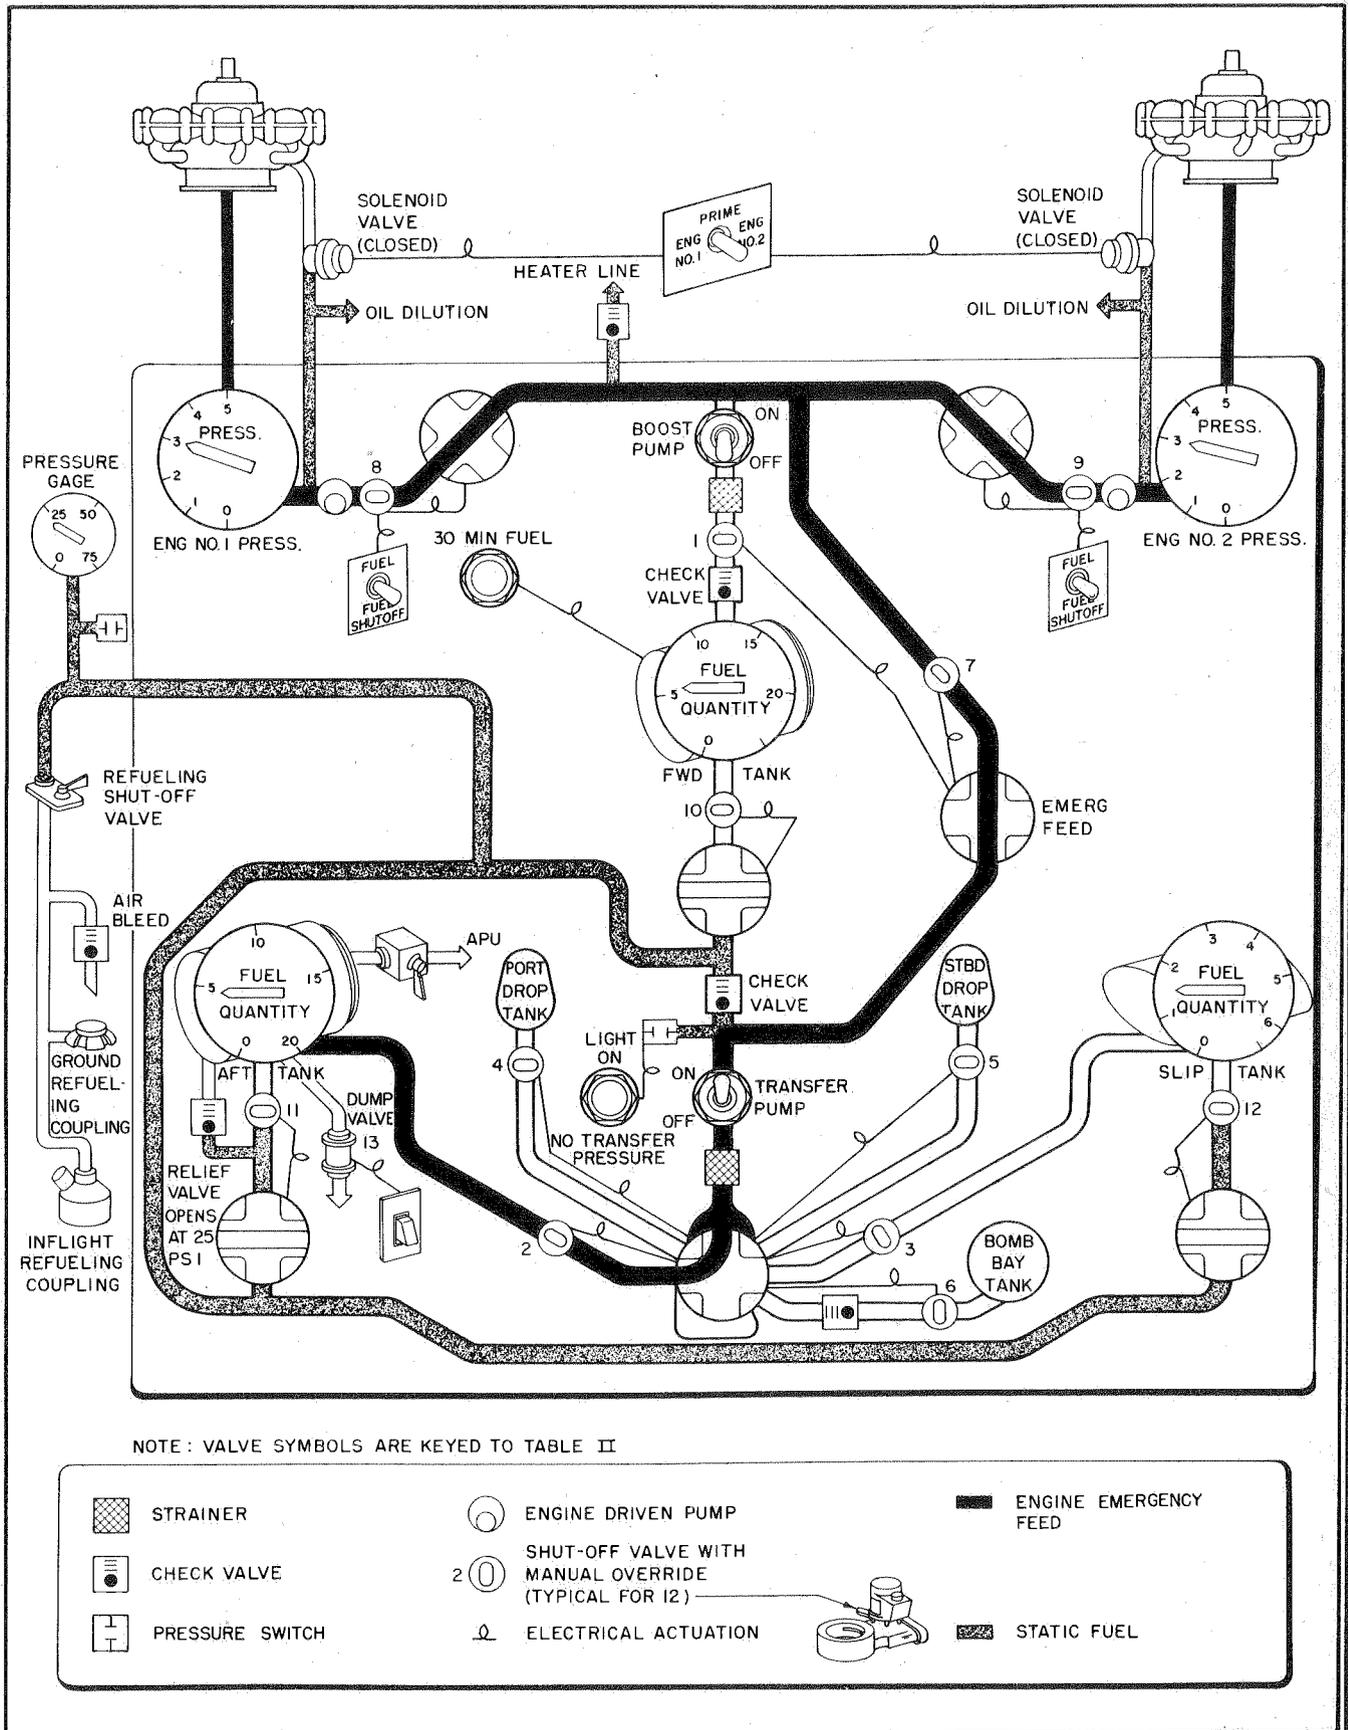

Figure 3-2. Emergency Fuel Flow Diagram
- a. If feeding normally from forward tank, switch to emergency feed as shown in figure 3-2.
BOOST PUMP FAILURE. If the boost pump is not operative, fuel can be fed through the emergency feed system as shown in figure 3-2. The transfer pump acts to some extent as a boost pump when fuel is fed through the emergency system. The switch to emergency feed is necessary only for operations which normally require that the boost pump be operated. If the boost pump fails while operating, the condition can usually be detected by a slight drop (1 to 2 psi) in fuel pressure at both engines.